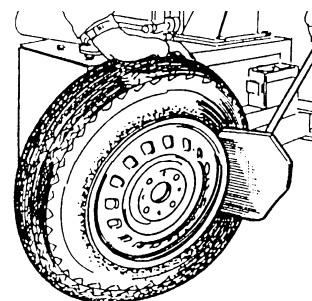

Fig 7
- 3) Push the bead breaker shovel outward, make the tire live on the rubber buffer(shown as Fig 7). Place the tyre against the rubber buffer . Bring the shovel against the bead about 10mm from the edge of the rim